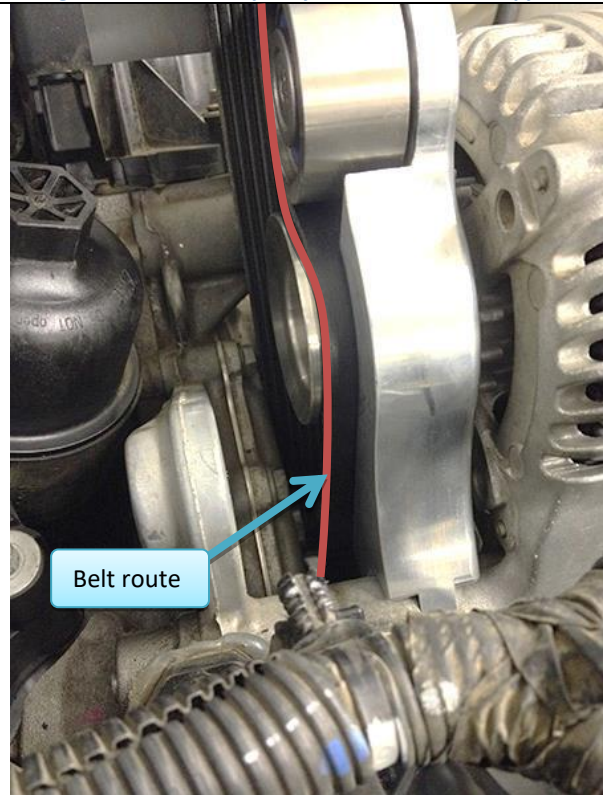

Figure 61: Serpentine belt properly routed in plate with pulley.
37.2.4. Route serpentine belt through plate with pulley and over alternator pulley (Figure 61)